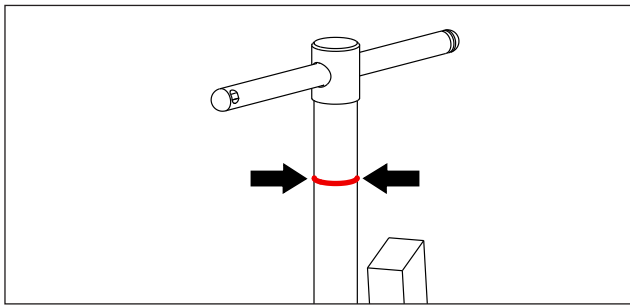

Figure 6, Thread engagement indicator (red band)
- After mounting the puller on the part to be removed, be certain that the thread engagement indicator is visible. See Figure 6 for location. If the adjusting rod is turned clockwise too many turns, the indicator will be hidden, indicating that the amount of thread engagement is not sufficient.